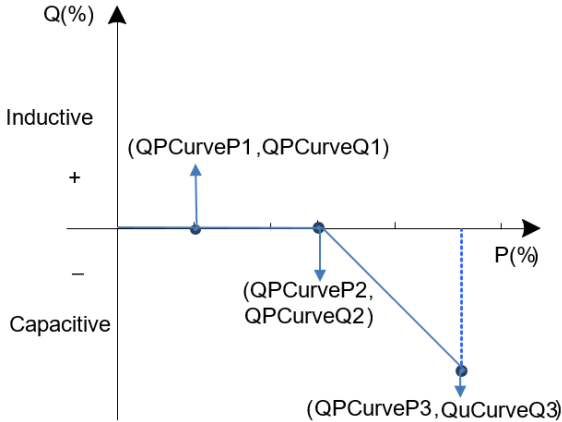

Figure 6-18 Q(P) Curve Mode
4. **Q(P) Curve:** Q(P) curve mode. Using the curves to set the reactive power setpoints (See Figure 6-18). The reactive power compensation changes according to the active power.